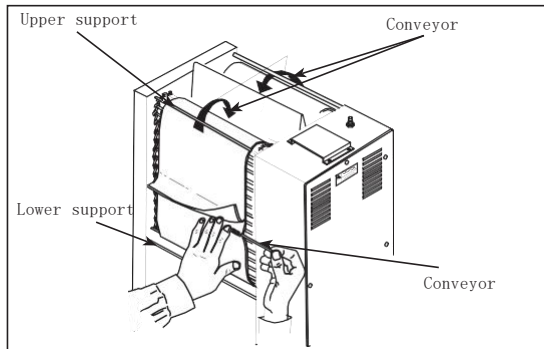

Figure4
6. Install a new conveyor belt so that the covered end hangs naturally from top to bottom. Align the buckle and insert the latch. (Figure 4)